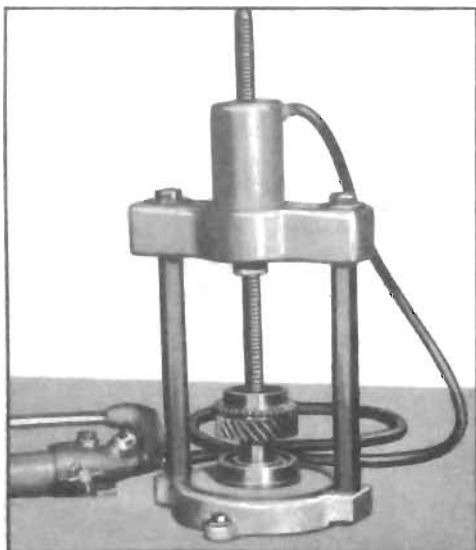

Figure 4-62—Installing Main Drive Gear Bearing
2. Using heavy grease to retain the rollers, install 20 rollers in either end of the countergear, two .050" spacers, 20 more rollers, then one .050" spacer. Install in the other end of the countergear, 20 rollers, two .050" spacers, 20 more rollers, and another .050" spacer. (See Figure 4-62).
3. Press bearing onto main drive gear (snap ring groove to front), using J-5746 (Figure 4-62). Be sure bearing fully seats against shoulder on gear.